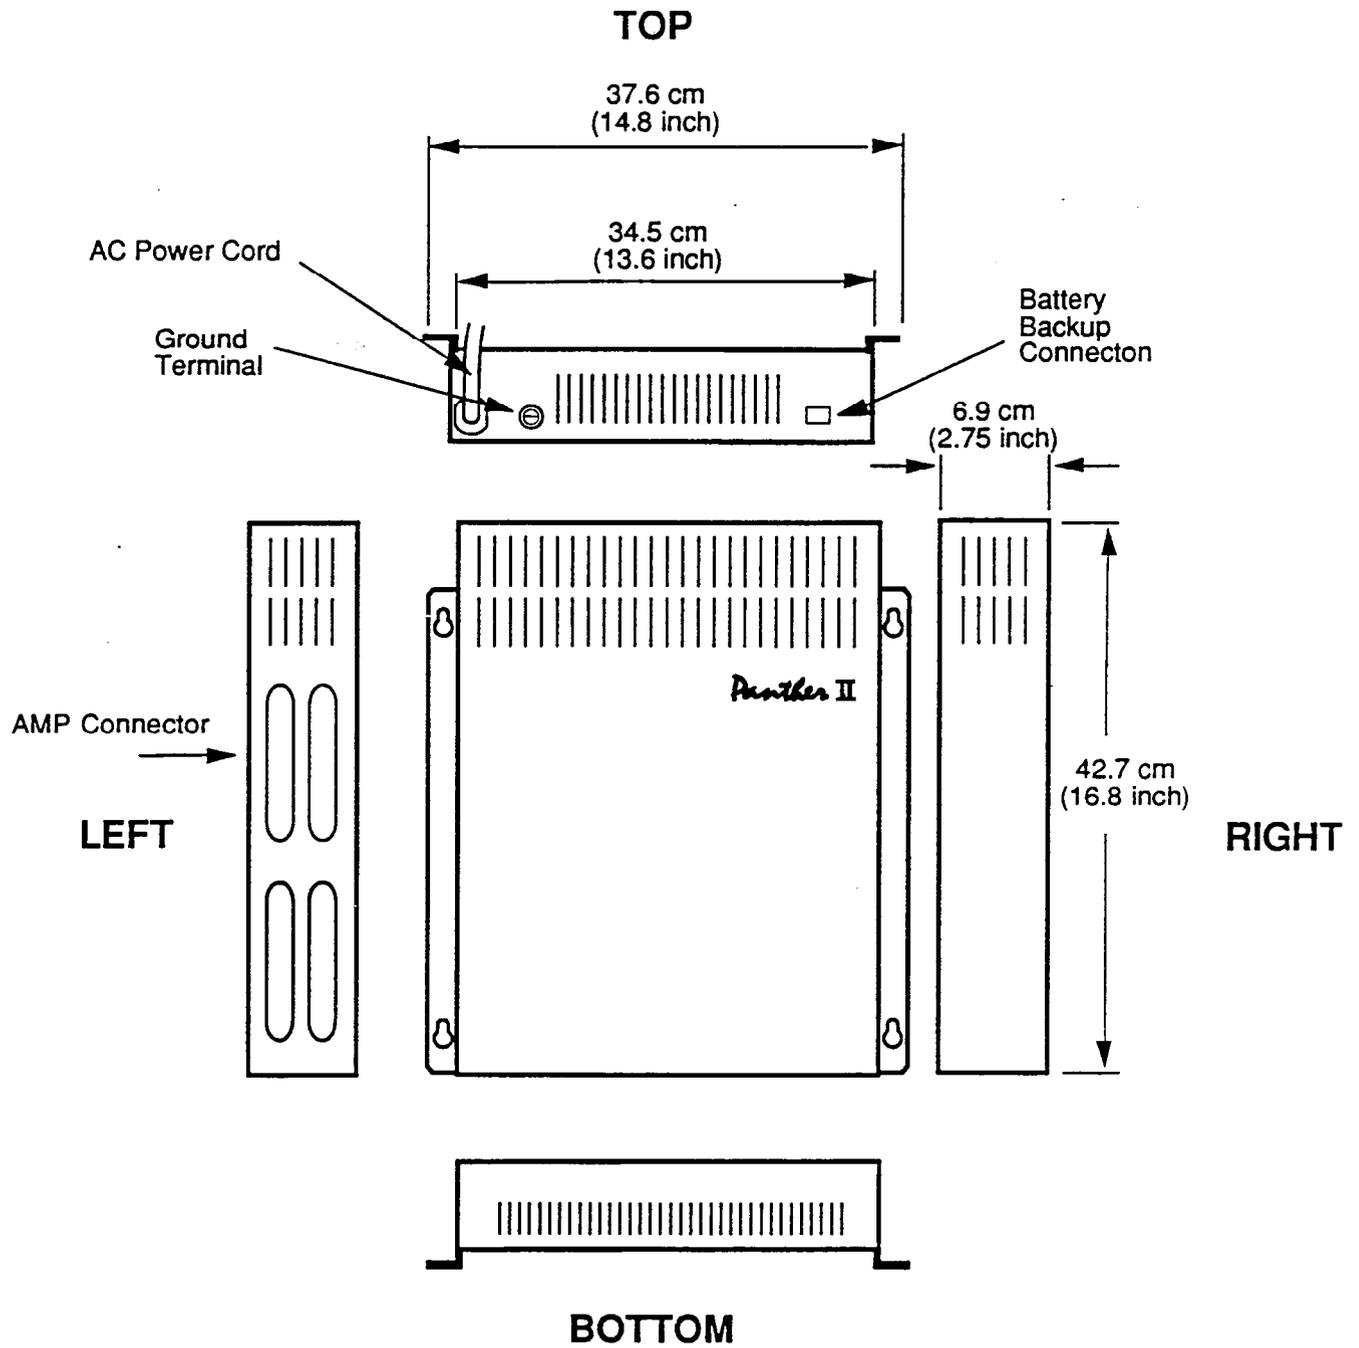

Figure 2-1 Key Service Unit Dimensions
2.01 The Key Service Unit (KSU) is a sealed unit of metal construction measuring; 42.7 cm (16.8 inches) high, 34.6 cm (13.6 inches) wide and 7 cm (2.75 inches) deep and weighing approximately 6.12 Kg (Panther II 820), 6.45 Kg (Panther II 1032) or 6.18 Kg (Panther II 2064). See Figure 2-1. The unit contains all of the circuitry necessary to control the system. A power supply, located inside the KSU at the top, converts the 110 Vac supply to the voltages required by the circuits of the KSU, and those of the Panther telephone sets. The components of the KSU are cooled by air drawn, by convection, from the bottom to the top of the KSU. The air passes through the KSU before being exhausted through the vents in front and sides of the top of the unit. Keyhole slots are provided on both sides of the KSU to facilitate wall mounting. The connectors required to connect the C.O. lines and ancillary devices, along with a 4-position dip switch, a reset button and status LEDs, are easily accessible on the right side of the KSU. The connectors required to connect the KSU to the stations are located on the left side of the KSU. The removable Read Only Memory (ROM) Module (located on the right side of the KSU), in which the Stored Program Control resides. Each KSU has two internal system batteries (used to retain customer programming). The batteries have a life of approximately 10 years when ac power is applied to the KSU and the battery switch is in the on position, or 3 months when the ac power is disconnected from the KSU and battery switch is on.